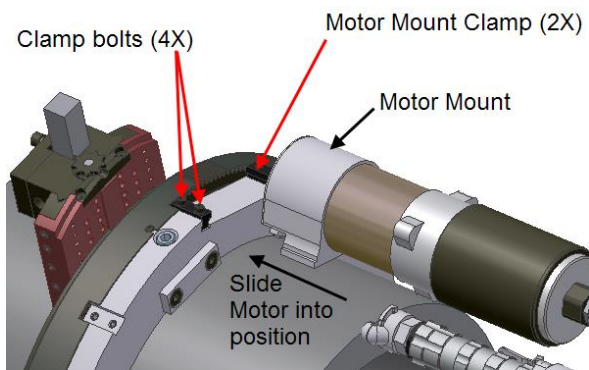

Figure 10
1. Loosen the four motor mount clamp screws. Position the motor mount toward the rear of the Clamshell (see Fig. 10).